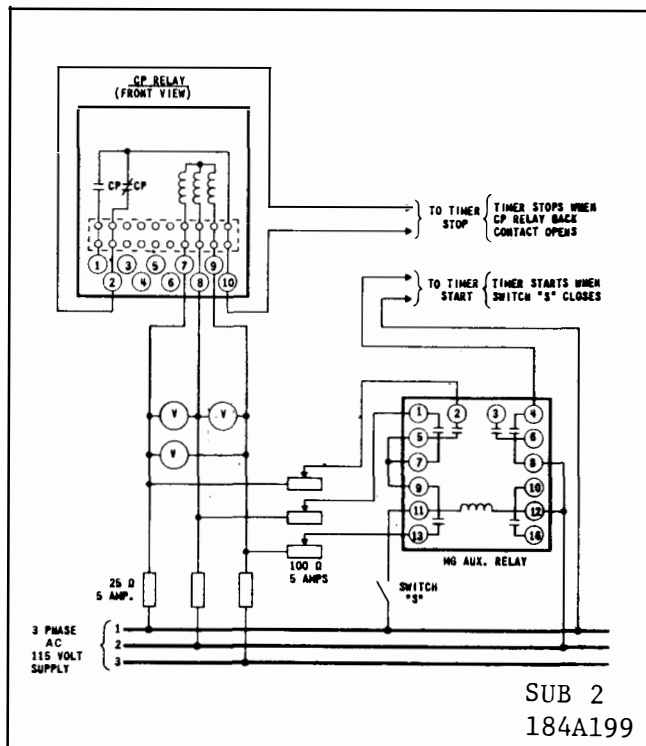

Fig. 8. Diagram of Test Connection for checking the Undervoltage Time Curves of the Type CP Relay.
3. Time Curve – The time curve can be checked by the use of the circuits of Figs. 8 and 9.
3. Time Curve Calibration — Install the permanent magnet and connect the relay as per the circuit of Fig. 8.